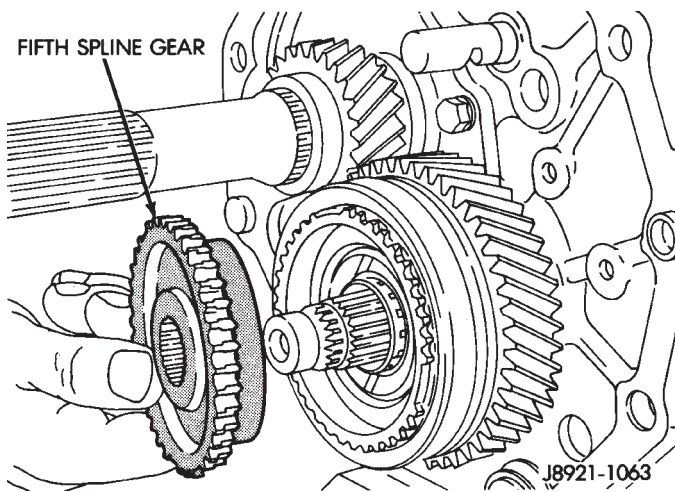

Fig. 103 Installing Fifth Spline Gear
(7) Install fifth spline gear on cluster journal (Fig. 103). Tap spline gear into place with plastic mallet if necessary.